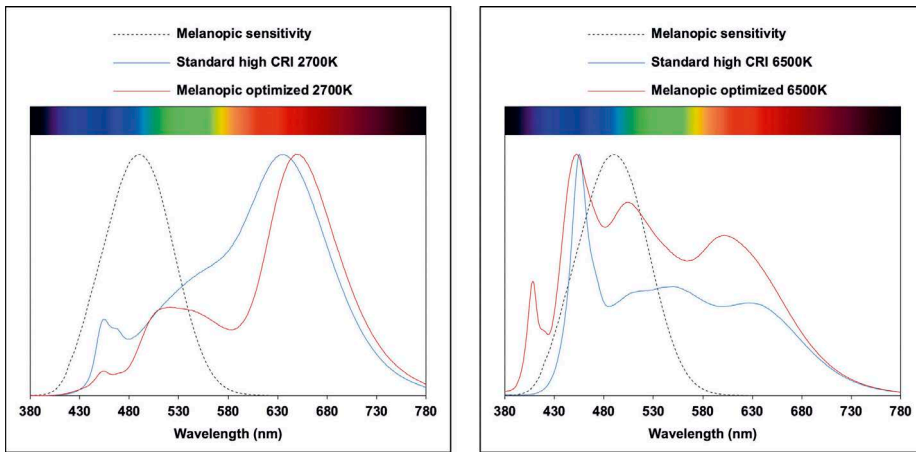

Figure 11: The comparison of melanopic optimized and standard high CRI spectra
Based on this principle, Figure 11 indicates the spectral comparisons with an optimizing melanopic solution for matching with circadian rhythm, normalized to 1. Relatively, the weighting in the sensitivity is less for the “Melanopic optimized 2700 K” compared to the standard high CRI 2700 K, and is more for the “Melanopic optimized 6500 K” compared to the standard high CRI 6500 K. according to the calculation of Equation (2), the $M_{2700K}(S)$ is 71% weighting compared to high CRI 2700 K, and the $M_{6500K}(S)$ is 163% than the high CRI 6500 K.
During the test, it is found that to achieve accurate chromaticity coordinates, either along the Planckian locus or Daylight locus, an accurate forward current is necessary. In the test, interval 100 K CCT from 2000–10 000 K means 1% accuracy tuning on each element, calculating to forward current which is indicated in **Figure 11**, for element G. The current accuracy should achieve 0.32 mA, even if the electrical tuning is generally better than chemical and optical methods, it is still not sure if an electrical system can reach such accuracy, especially when considering the feasibility of economy for commercial use.